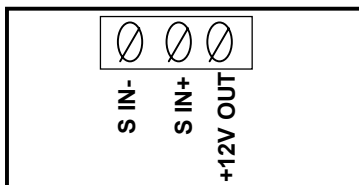

Figure 6
6. Insert the sensor's DC common (or negative) output wire into the S IN- terminal block and secure the wire by turning the terminal's screw clockwise. *(Refer to the MX001 box or Figure 6 for the order of the terminals for the sensor wires)*